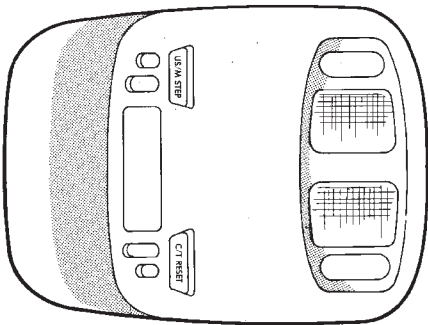

Fig. 2 Mini Console
- (2) Mini console has (Fig. 2):